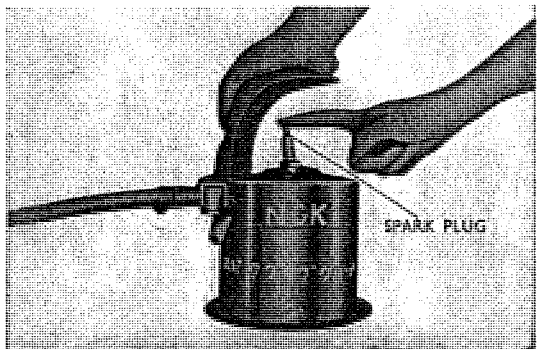

Fig. 6.15 Cleaning the spark plugs
- c. Clean with a wire brush. (Refer to Fig. 6.15)